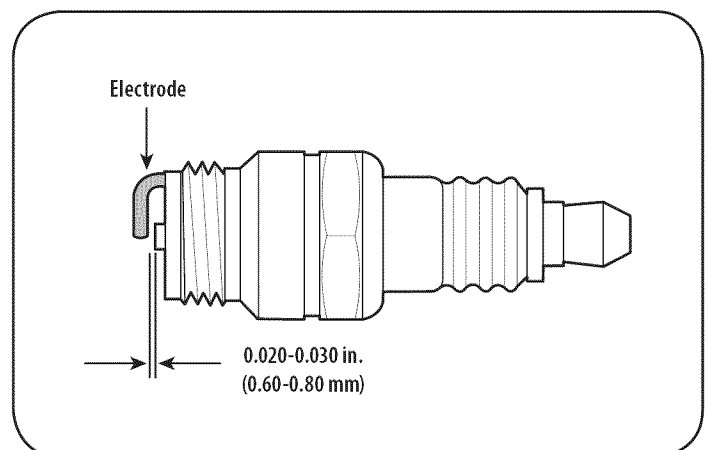

Figure 20
3. Measure the plug gap with a feeler gauge. Correct as necessary by bending side electrode. See Figure 20. The gap should be set to 0.020-0.030 inches (0.60-0.80 mm).